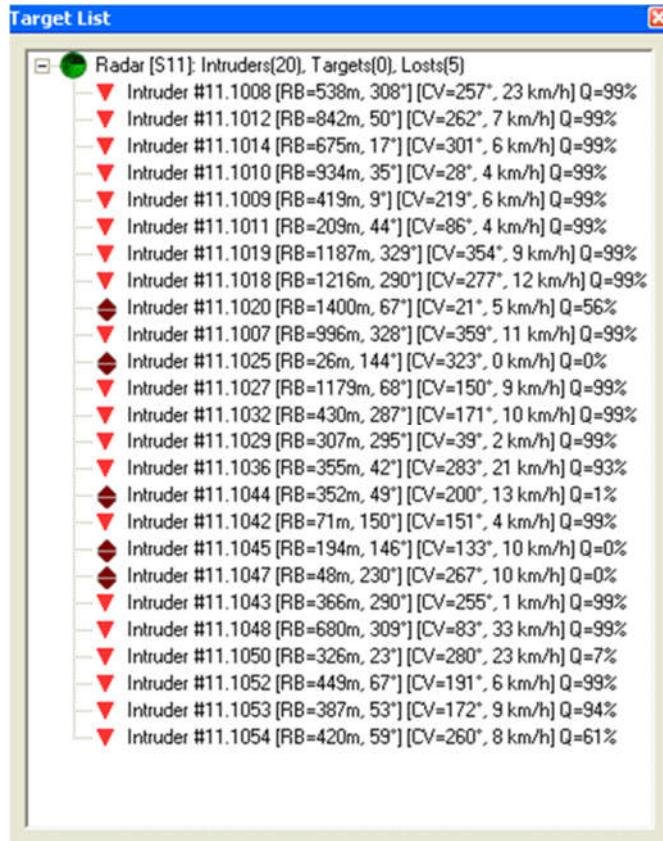

Figure 44 - Targets/Intruders Tree View
There are two alternate ways to display information on intruders and targets: the **List View** and the **Tree View**. These are enabled via the **Tools** menu **Targets/Intruders List View** (Figure 43) and **Targets/Intruders Tree View** (Figure 44) commands.
In the Targets/Intruders List View, left clicking with the mouse on any column will sort the targets and intruders based on the selected column. This view is limited to a total of twelve (12) targets and intruders. If there are more, they will not be listed in this view. For a complete view, use the **Targets/Intruders Tree View** (Figure 44).